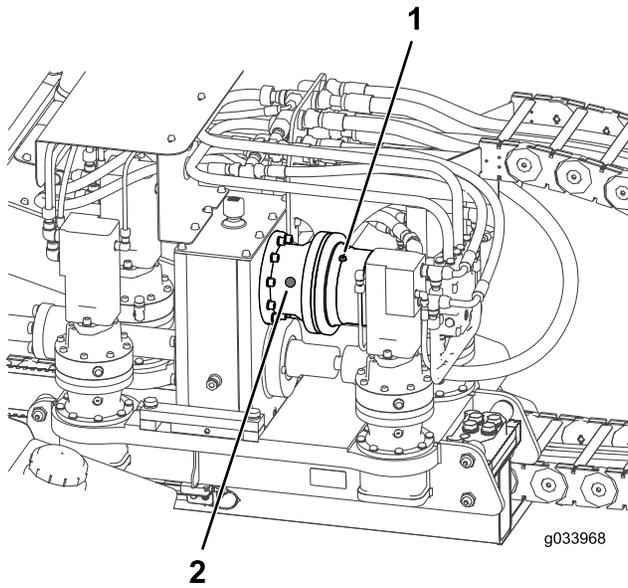

Figure 101
2. Check the oil level on the sight-glass on the rotary motor planetary drive (Figure 101).
3. If the oil level is low, remove the oil-level plug (Figure 101).